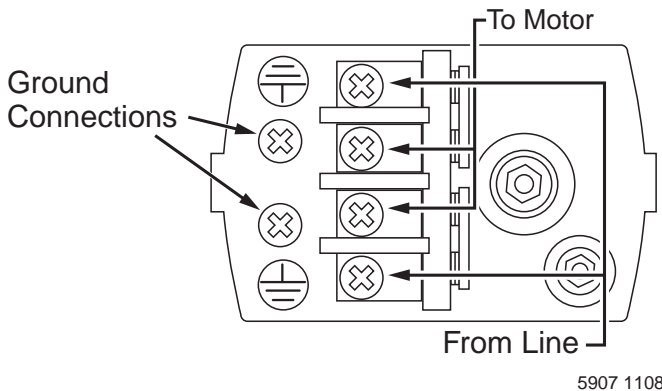

Figure 11: Connect power supply wires to pressure switch as shown.
- Step 1. Connect the ground wire first as shown in Figure 11. The ground wire must be a solid copper wire at least as large as the power supply wires.
- Step 4. Connect the power supply wires to the pressure switch as shown in Figure 11.